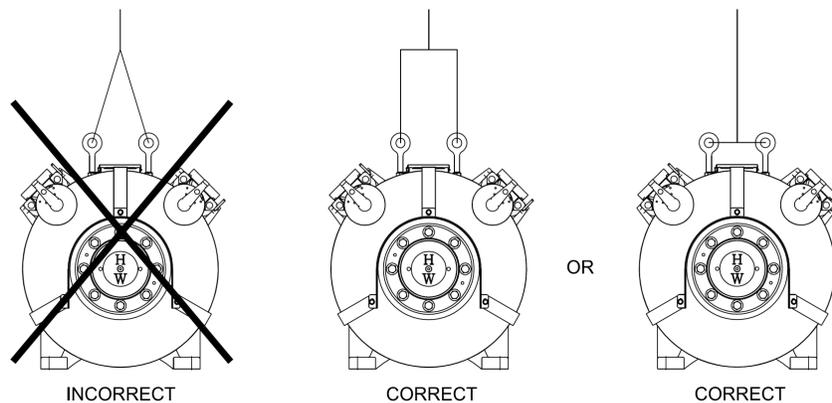

Figure 19
- When hoisting the machine, pull straight up on the hoisting eyebolts using a spreader beam or other suitable rigging apparatus to prevent damage to the eyebolts and possible failure which could result in dropping the machine. Refer to Figure 19 for the proper hoisting methods and Table 1 for the machine weights.
- Before hoisting the machine into place, verify all the hoisting equipment is rated for the weight of the machine. Refer to Table 1 & Figure 19.